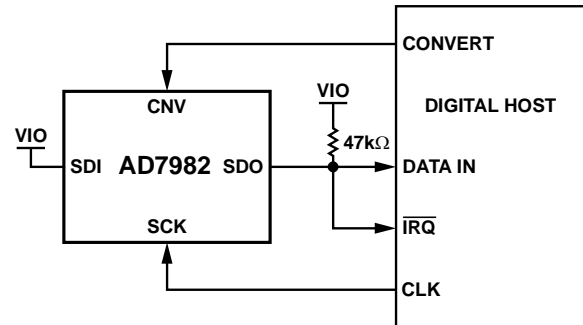
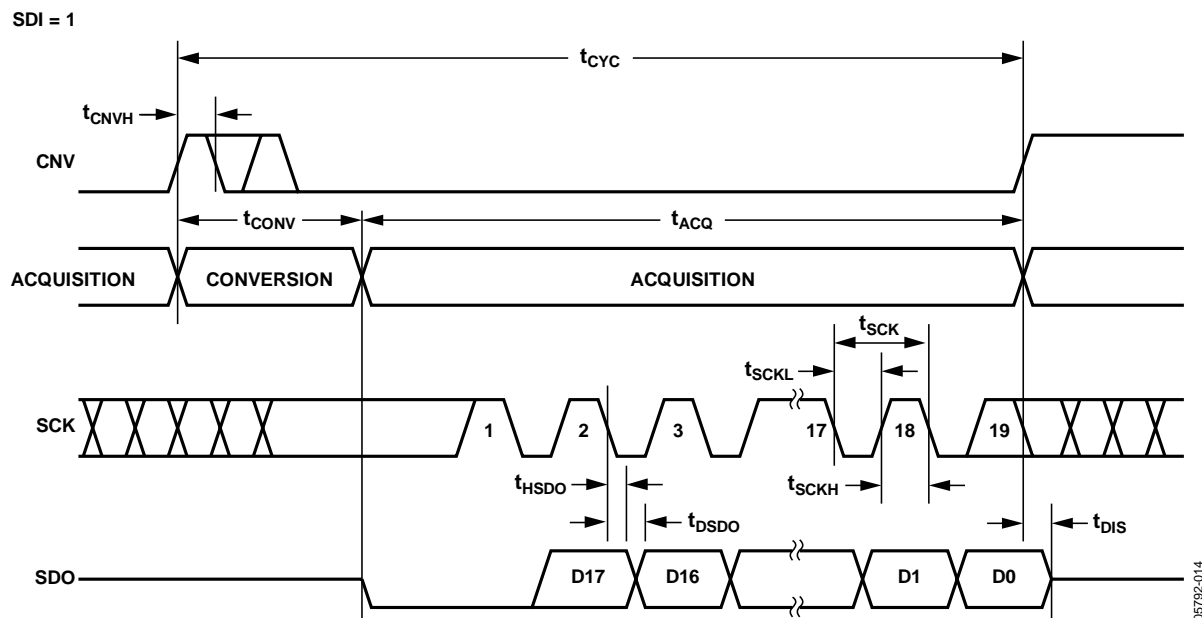
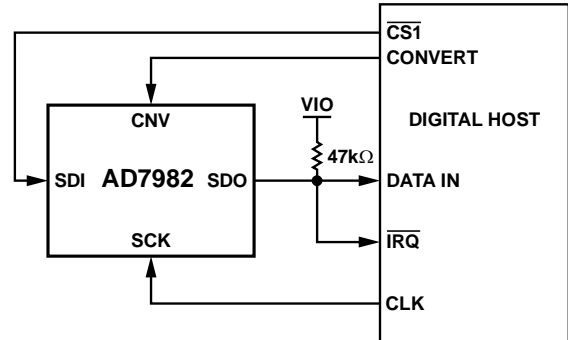
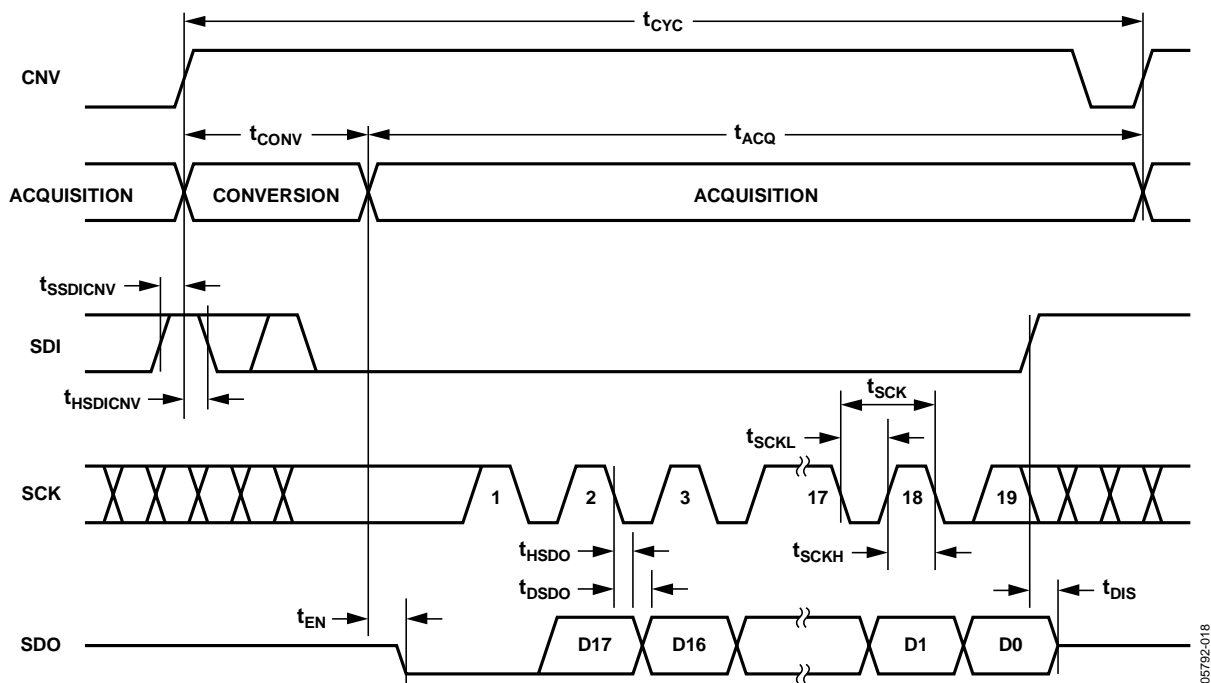

Figure 18. $\overline{\text{CS}}$ Mode 3-Wire with BUSY Indicator Connection Diagram (SDI High)
Figure 19. $\overline{\text{CS}}$ Mode 3-Wire with BUSY Indicator Serial Interface Timing (SDI High)
Figure 22. \overline{CS} Mode 4-Wire with \overline{BUSY} Indicator Connection Diagram
Figure 23. \overline{CS} Mode 4-Wire with \overline{BUSY} Indicator Serial Interface Timing
- In the $\overline{\text{CS}}$ mode, if CNV or SDI is low when the ADC conversion ends (Figure 19 and Figure 23).
The connection diagram is shown in Figure 18 and the corresponding timing is given in Figure 19.
The connection diagram is shown in Figure 22 and the corresponding timing is given in Figure 23.